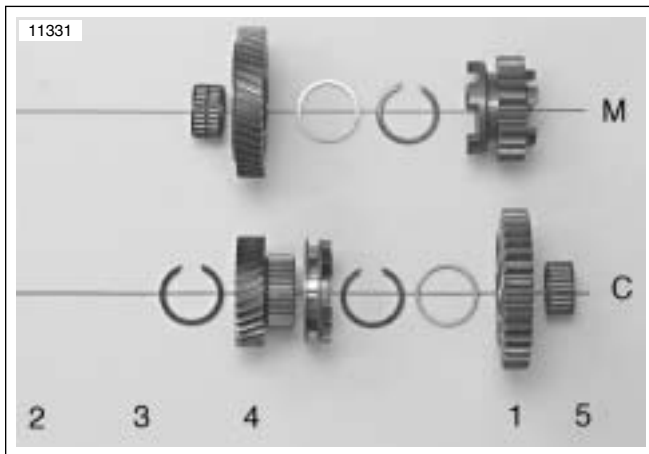

Figure 6-60. Transmission Parts Identification
- See Figure 6-60. As each component is removed, place it on a clean surface in the exact order of removal.